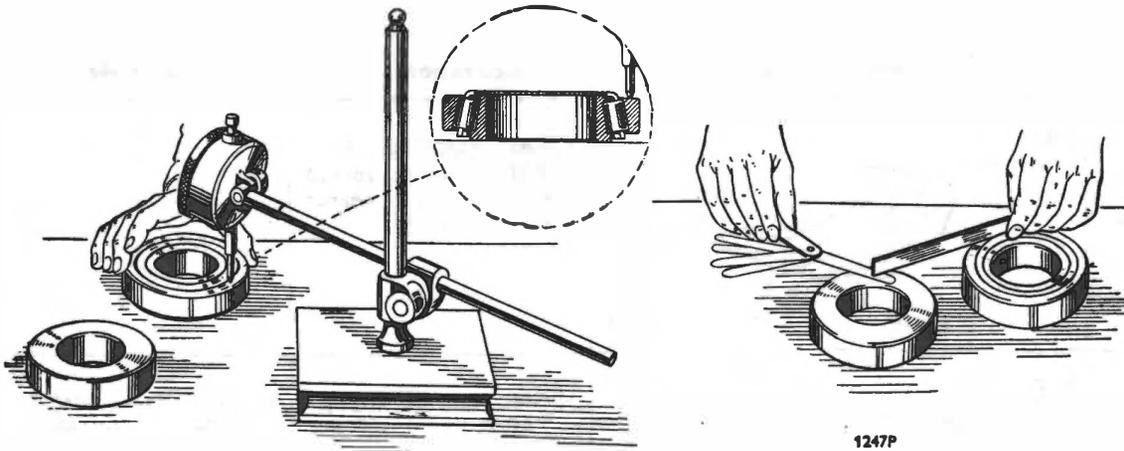

Fig. 8. To measure height of differential bearing on surface plate
1. A clock gauge is suitably mounted on a surface plate and set to zero on the dummy bearing. The reading then taken on the actual bearing to be used gives the difference (See Fig. 8).
2. In the absence of a clock gauge the difference between the dummy and the actual bearing can be ascertained by the use of feeler gauges and a straight edge, if both are placed on a surface plate (See Fig. 8).